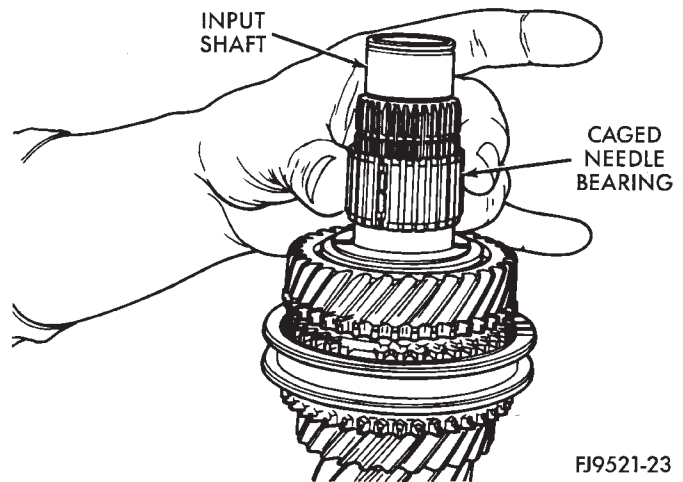

Fig. 90 Caged Needle Bearing Removal
(3) Remove caged needle bearing (Fig. 90).